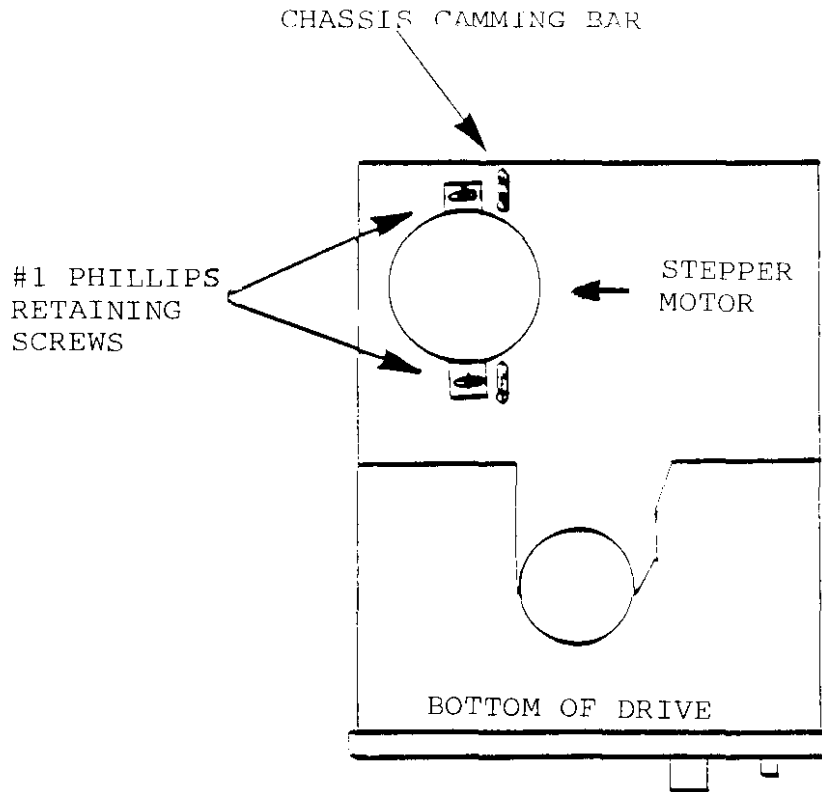

FIGURE 5-7
1. Loosen the two Number 1 Phillips retaining screws on the stepper motor (see Figure 5-7).